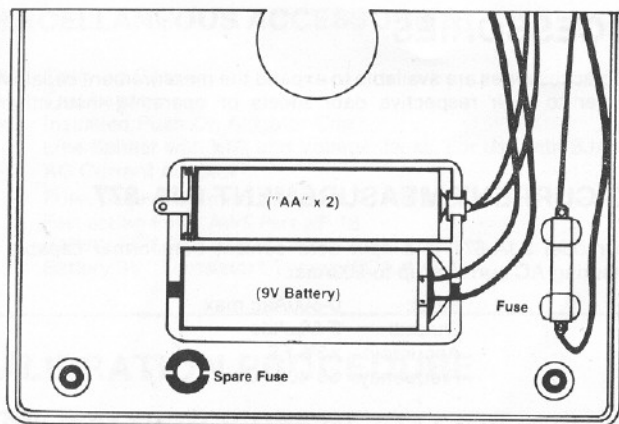

Fig. 2
5. To remove all 3 batteries pull up on the free edge of the colored nylon strip. (See Fig. 2).
5. Remove the fuse from the clip next to the batteries. (See Fig. 2).